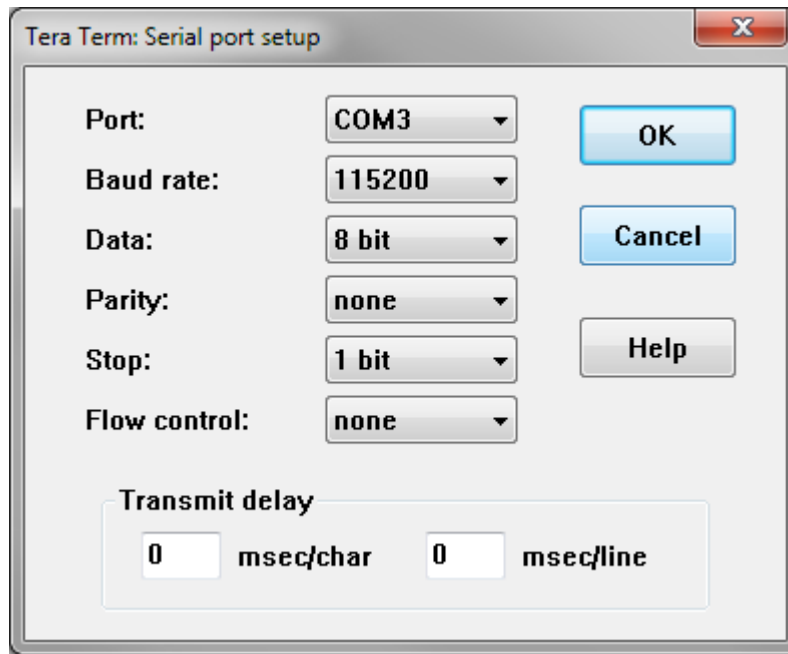

Figure 2.3: Tera Term Serial Port Settings
4. Verify that the serial port settings are correct (see Figure 2.3 in the previous section).